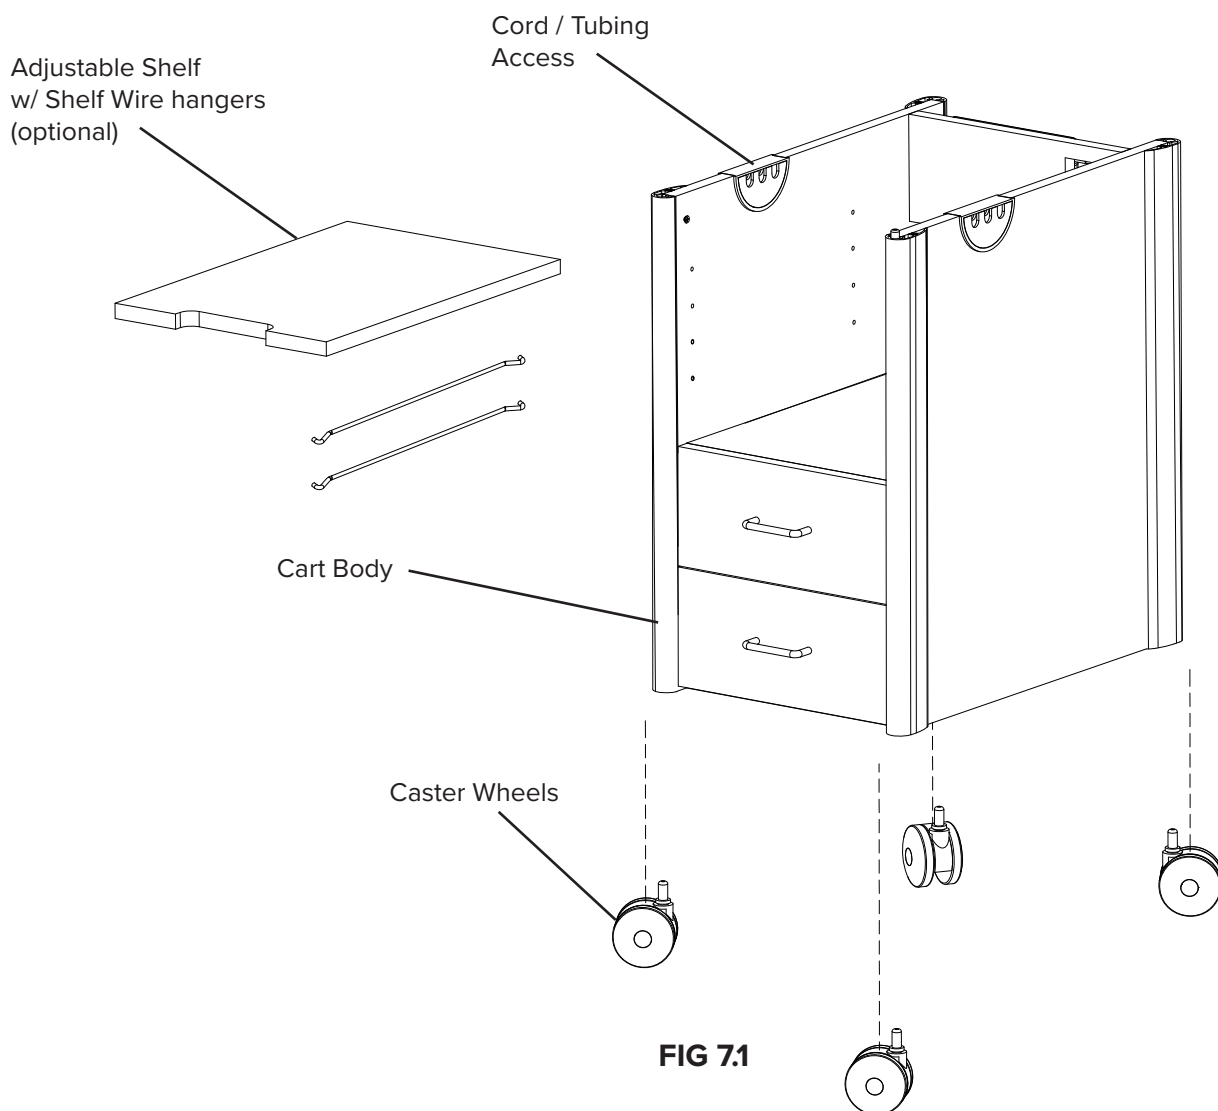

FIG 7.1
- 2.) Casters are shipped in one of the drawers. Install them in the bottom of the cart body as shown in Fig 7.1.